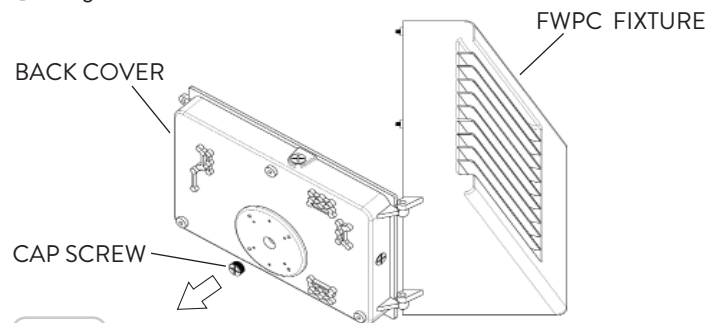

FIG. 7
- 2 Remove the Cap Screw from the Back Cover of the FWPC fixture (Fig. 7).